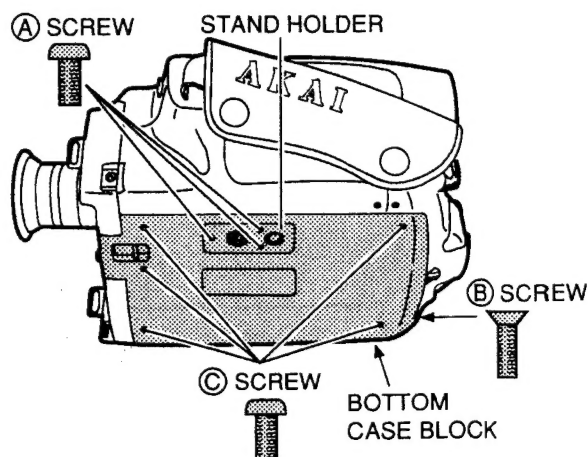

Fig.1-4
2. Remove the (B) screw and five (C) screws as shown in Fig.1-4 then remove the BOTTOM CASE BLOCK.